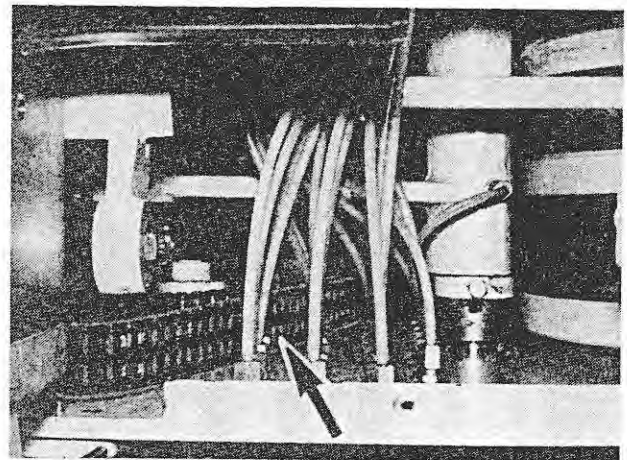

Fig. 69
2. Check the chain tension on the longest exposed section (Figure 69/arrow). The chain must deflect by 15...20 mm.